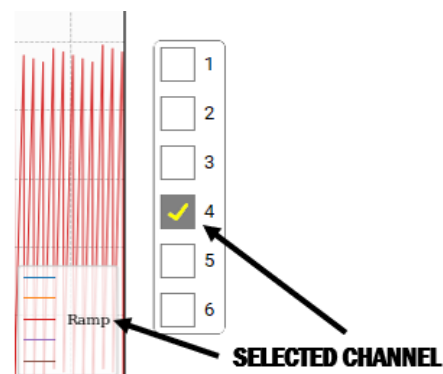

Figure 28: Waveform selector panel.
- **Waveform selector and legend.** Each of the waveform plots, called Waveforms UP and Waveforms BOTTOM, has its own selector (Fig. 28). This selector allows the user to customize the data displayed on the screen by choosing which channels are represented and in which of the plots they will be displayed. To make the selection, the user must click on the selector of the channel to be displayed. This change will be reflected in the legend, where the color corresponding to the waveform of each represented channel will be indicated. The channel selection will be stored when saving the configuration and will be available when loading previous configurations.